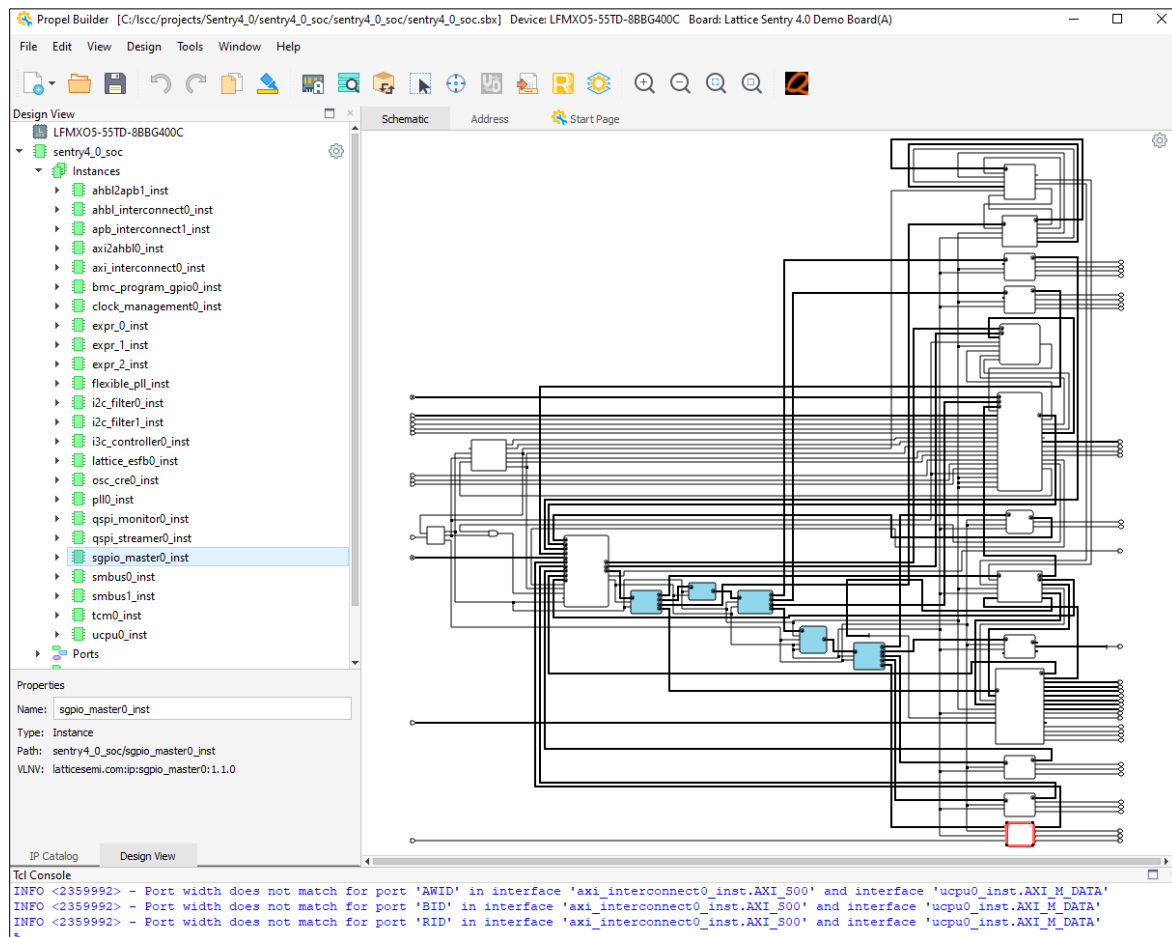

Figure 5.7. SoC Project – Imported
10. The SoC project opens in Lattice Propel Builder (Figure 5.7).